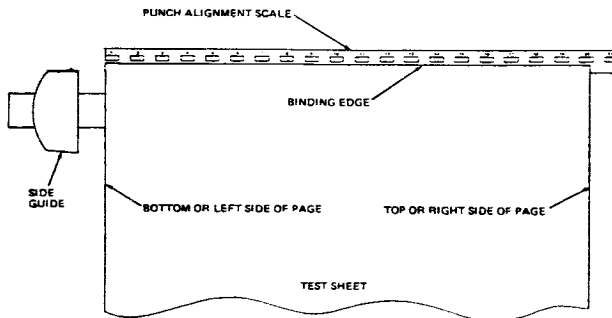

Figure 4.4
1. The Solid White Rectangles indicated on the Punch Alignment Scale (See Figure 4.4) represent the exact position of the actual punches located behind the scale.
8. Setting of the Back Guide Control Knob is the final adjustment. The Back Guide Control Knob is located on the left hand side of your Electric Combo. (See Figure 4.4)